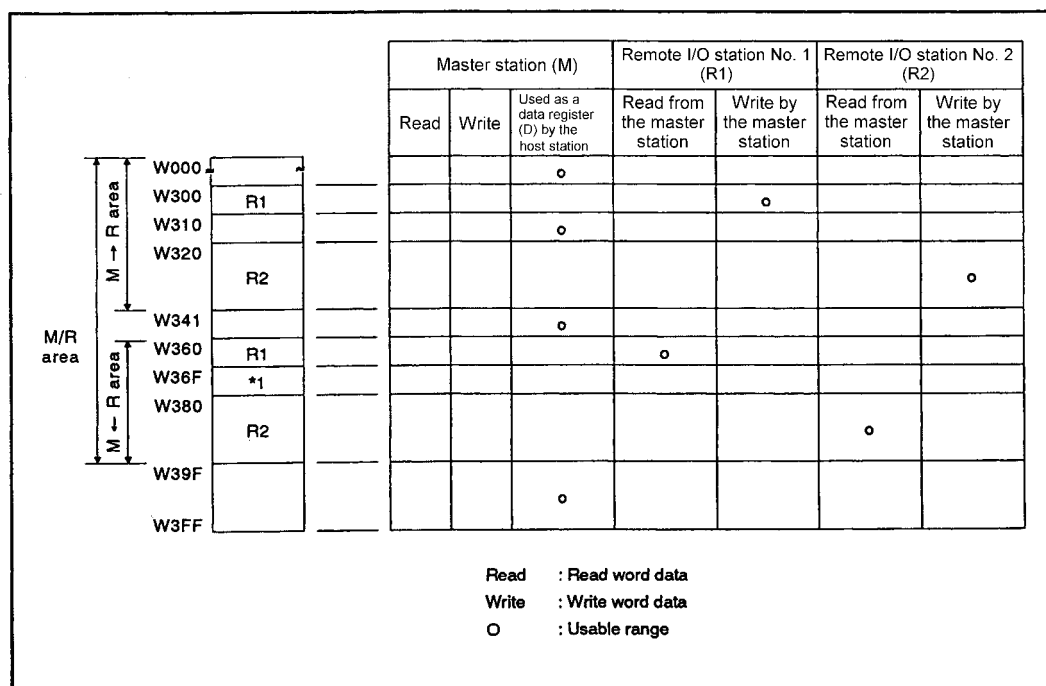

Fig 7.13 Link register (W) assignment example
- (b) In Fig 7.13, the empty area marked with *1 in the M ← R area cannot be used as a data register (D) by the master station.
- (3) Assignment of inputs (X) and outputs (Y)